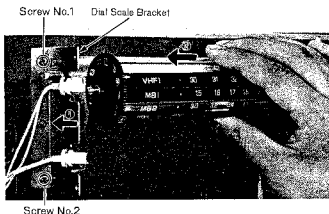

Fig. 25
2. Loosen the two (2) dial scale bracket screws (nos. 1 & 2), as shown in fig. 25.
3. Push dial scale bracket in the direction of arrow① and remove dial scale in the direction of arrow②, as shown in fig. 25.